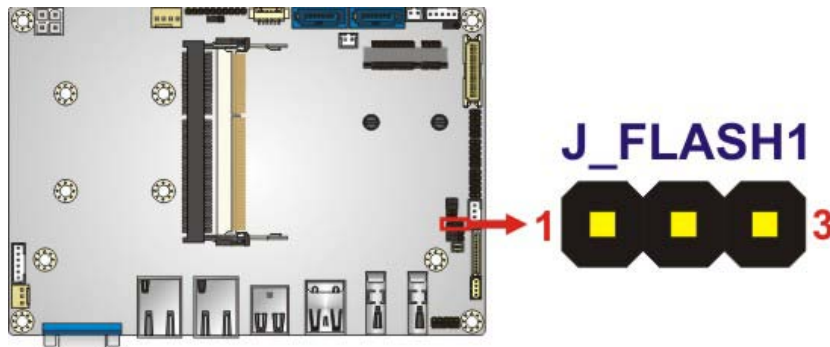

Figure 4-29: Flash Descriptor Security Override Jumper Location
- Jumper Location: See **Figure 4-29**